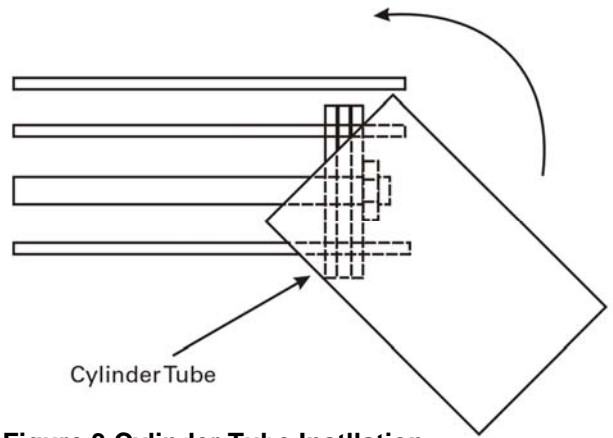

Figure 3 Cylinder Tube Installation
6. Carefully slide the cylinder tube over the piston seal. The cylinder tube and piston seal must be well lubricated with Dow Corning No.44 lubricant. Start with the tube at a 45 degree angle to the piston and rotate the tube on to the piston. On 6 inch and larger cylinders, remove tie rods as needed to allow positioning the tube at a 45 degree angle. See Figure 3.